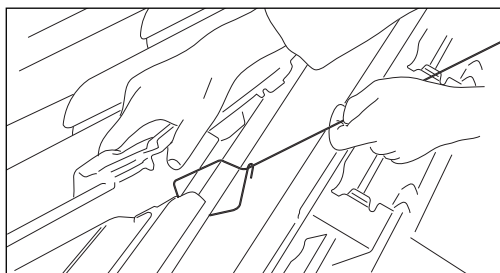

Fig 42 - Securing ridge wire to tiling batten
- 3 Fit the security ridge wire around the top course tile batten, ensuring that the end loop closes over the wire above the rectangular loop (Fig 42).